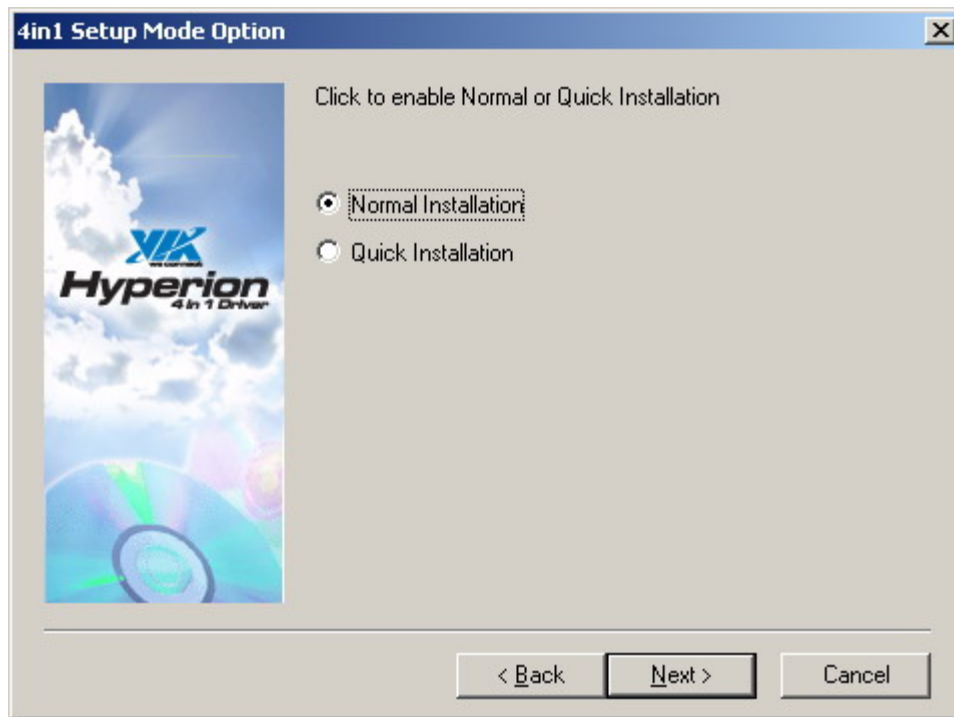

Figure 6-5: VIA Chipset Driver Installation Type
Step 6: The user is then prompted to select the installation type. A user can select “**Normal Installation**” or “**Quick Installation.**” (See **Figure 6-5**) Select the installation type and click “**NEXT**” to continue the installation.